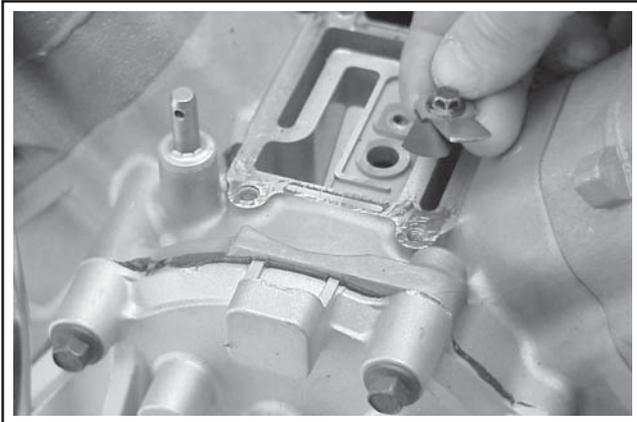

Figure 9-28. Removing the Breather Reed Assembly Parts.
4. Remove the hex flange screw, breather reed retainer and breather reed from the breather chamber. See Figure 9-28.